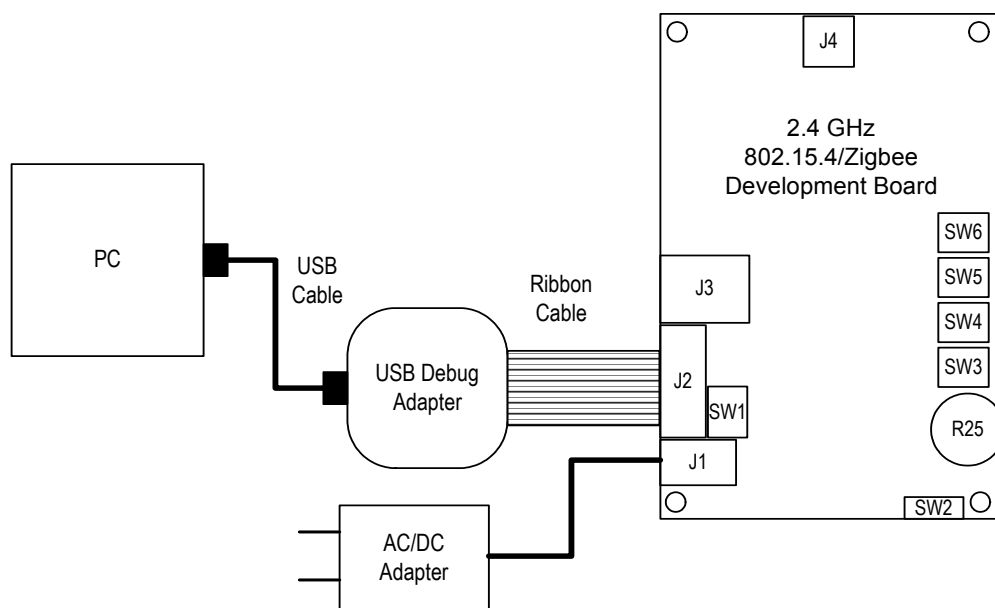

Figure 1. Programming Setup
The 802.15.4/ZigBee development board can be used with the Silicon Laboratories Integrated Development Environment (IDE) and the Universal Serial Bus (USB) Debug Adapter as shown in Figure 1.
1. Connect the 802.15.4/ZigBee Development Board as shown in Figure 1.